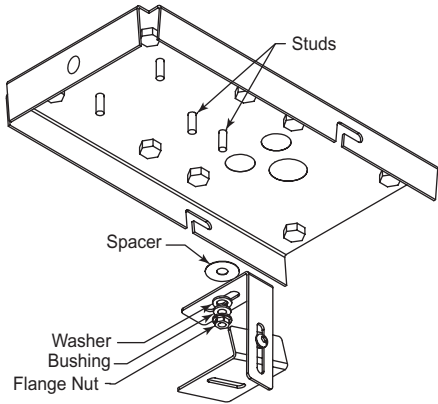

Figure 5: Alternate Camera Mount
1. If the installation requires that the camera be mounted horizontally to a wall, remove the camera bracket from the mounting system and install the alternate camera bracket provided in the hardware kit. **See figure 5.**